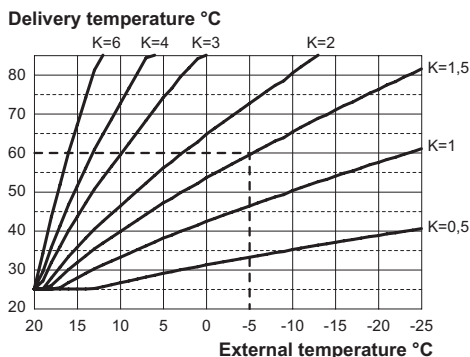
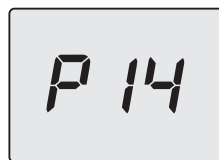

Fig. 8.8
Fig. 8.14
If the boiler is **EQUIPED** with the remote control (optional) refer to Fig. 8.8. In this case K setting must be done from the remote control.
The K coefficients is a parameter that increases or reduces the boiler flow temperature when the outside temperature changes. When installing the external probe it is necessary to set this parameter based on the efficiency of the heating system in order to optimise the flow temperature (Fig. 8.8).
E.g. In order to have a flow temperature at the heating system of 60°C with an external temperature of -5°C, set a K at 1.5 (sectioned line in Fig. 8.8).
- Pressing the 13 or 15 keys, it is possible to change the value of parameter **14** from a minimum of **00** to a maximum of **60** based on the selected curve of the K coefficient in Fig. 8.8 (the value shown on the display, in Fig. 8.14, corresponds to **K = 1.5**).